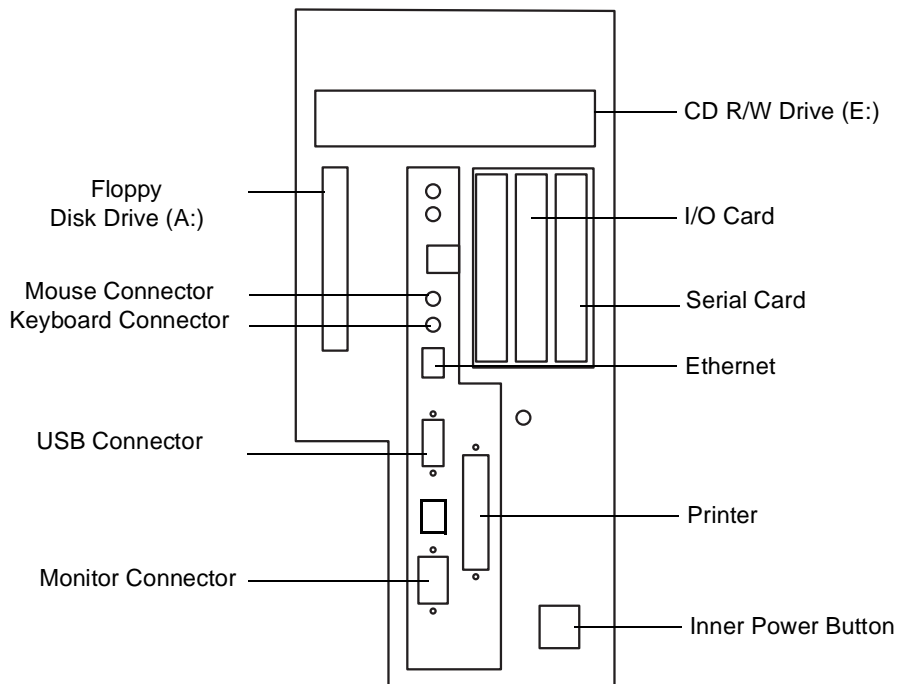

Figure 2-11 Connecting to the Communication Panel
3. Connect the monitor cable to the communication panel's 15-pin connector (Figure 2-11).
5. Connect the keyboard cable to the keyboard connector (Figure 2-11).
6. Connect the mouse cable to the mouse connector (Figure 2-11).
2. Open the solvent compartment door, and connect the other end of the printer cable to the communication panel's printer (Figure 2-11).
To connect to the serial device, use a RS-232 cable to connect the optional Waters-approved device to the serial port on the serial card (Figure 2-11).
2. Connect an Ethernet cable from your network to the communication panel's RJ45 network port (Figure 2-11).